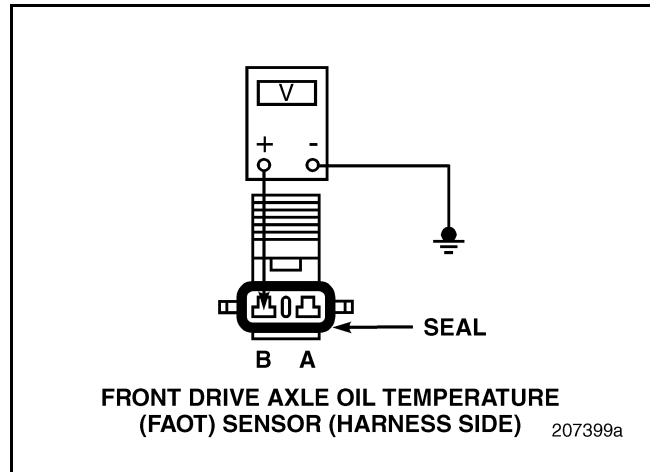

Figure 242
3. Measure the voltage between FAOT Sensor harness connector pin B and a good ground (see Figure 242).